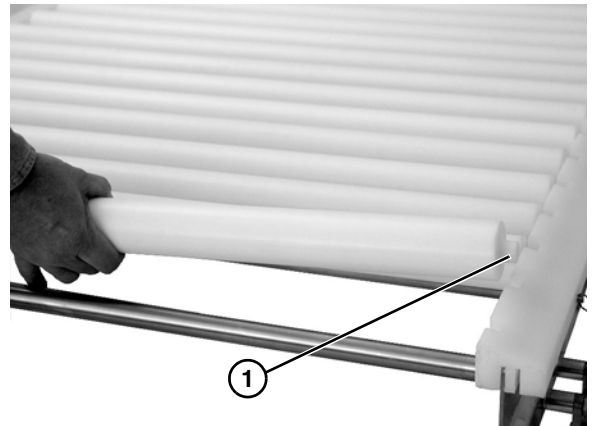

Figure 14
1. Remove the roller from the pockets in the side guides. (**Figure 14, item 1**).